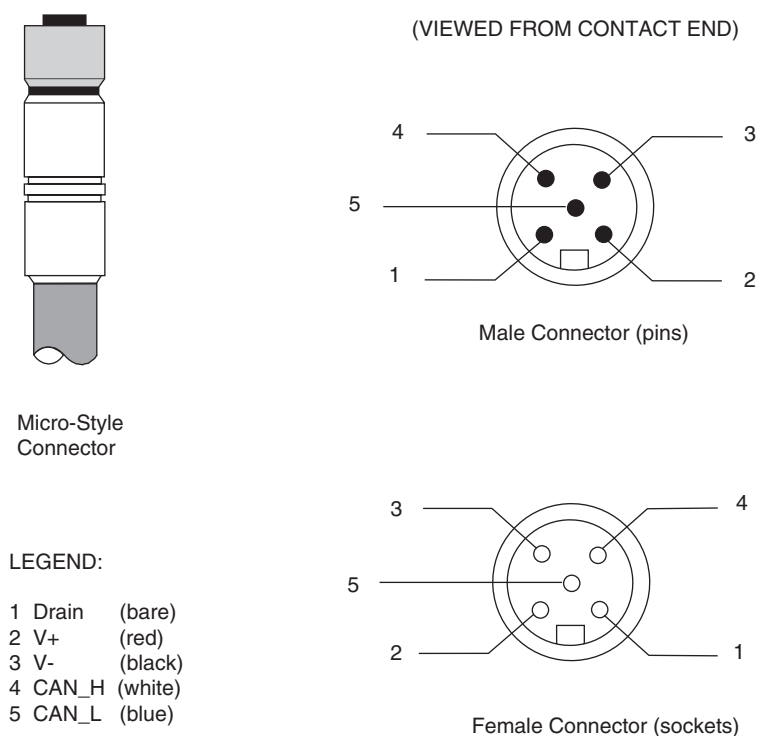

Figure 6-13. Micro-Style Connector Pinouts for DeviceNet
- Female connector for the robot tower; Micro-style 12 mm thread DIN female connector (see Figure 6-3 on page 71 and Figure 6-13 on page 84)